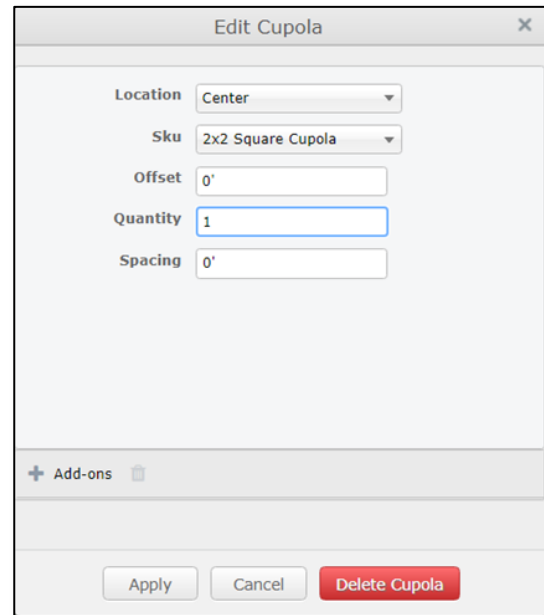

Figure 30: The *Edit Cupola* dialog box.
2. Double-click on the **Cupola** whose properties you wish to change. This will open an *Edit Cupola* dialog box, like the one pictured in Figure 30 at right.
2. With the **Edit** button now activated, bring your mouse over the **Cupola** to be deleted and double-click on it to open the *Edit Cupola* dialog box pictured in Figure 30 above.